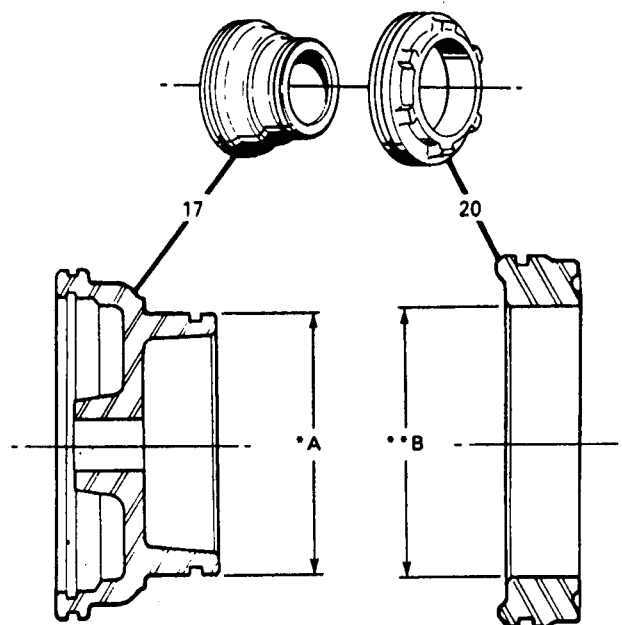

Figure 170
1. Check the dimensions of the 2nd apply piston and housing, as shown Figure 170, to insure compatible parts and proper size for model your building.